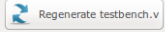

Figure 5.17: testbench.v file snapshot.
- Now you must have the `testbench.v` opened in text editor window as shown in Figure 5.17. This is the minimum testbench file for running the simulation of the generated SoC in Modelsim software. It has the SoC instance module connected to the clock and reset signals. You can edit this file as you wish.